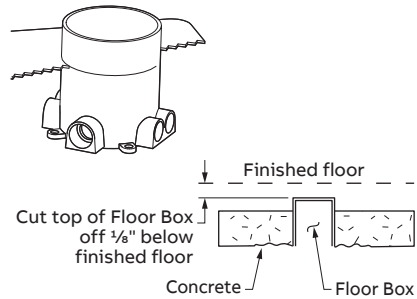

Figure A.4 - 68 P Floor box preparation
- Cut the top surface of the floor box $\frac{1}{8}$ inch below finished floor height (see Figure A.4). Finished floor height is the top surface of the carpet, wood or tile floor. **IMPORTANT:** On Installation C, all electrical connections and data or power cable must be run or installed before carpet plate is sealed to wood or tile floors.